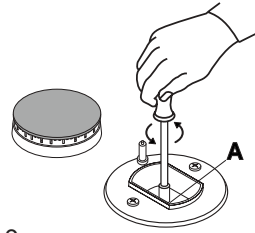

fig.10
- Unscrew the nozzles "A" (fig.10) using a 7 mm socket wrench and replace them with the ones which have a diameter suitable for the type of gas to be used, according to the table 1 "burners and nozzles specifications).